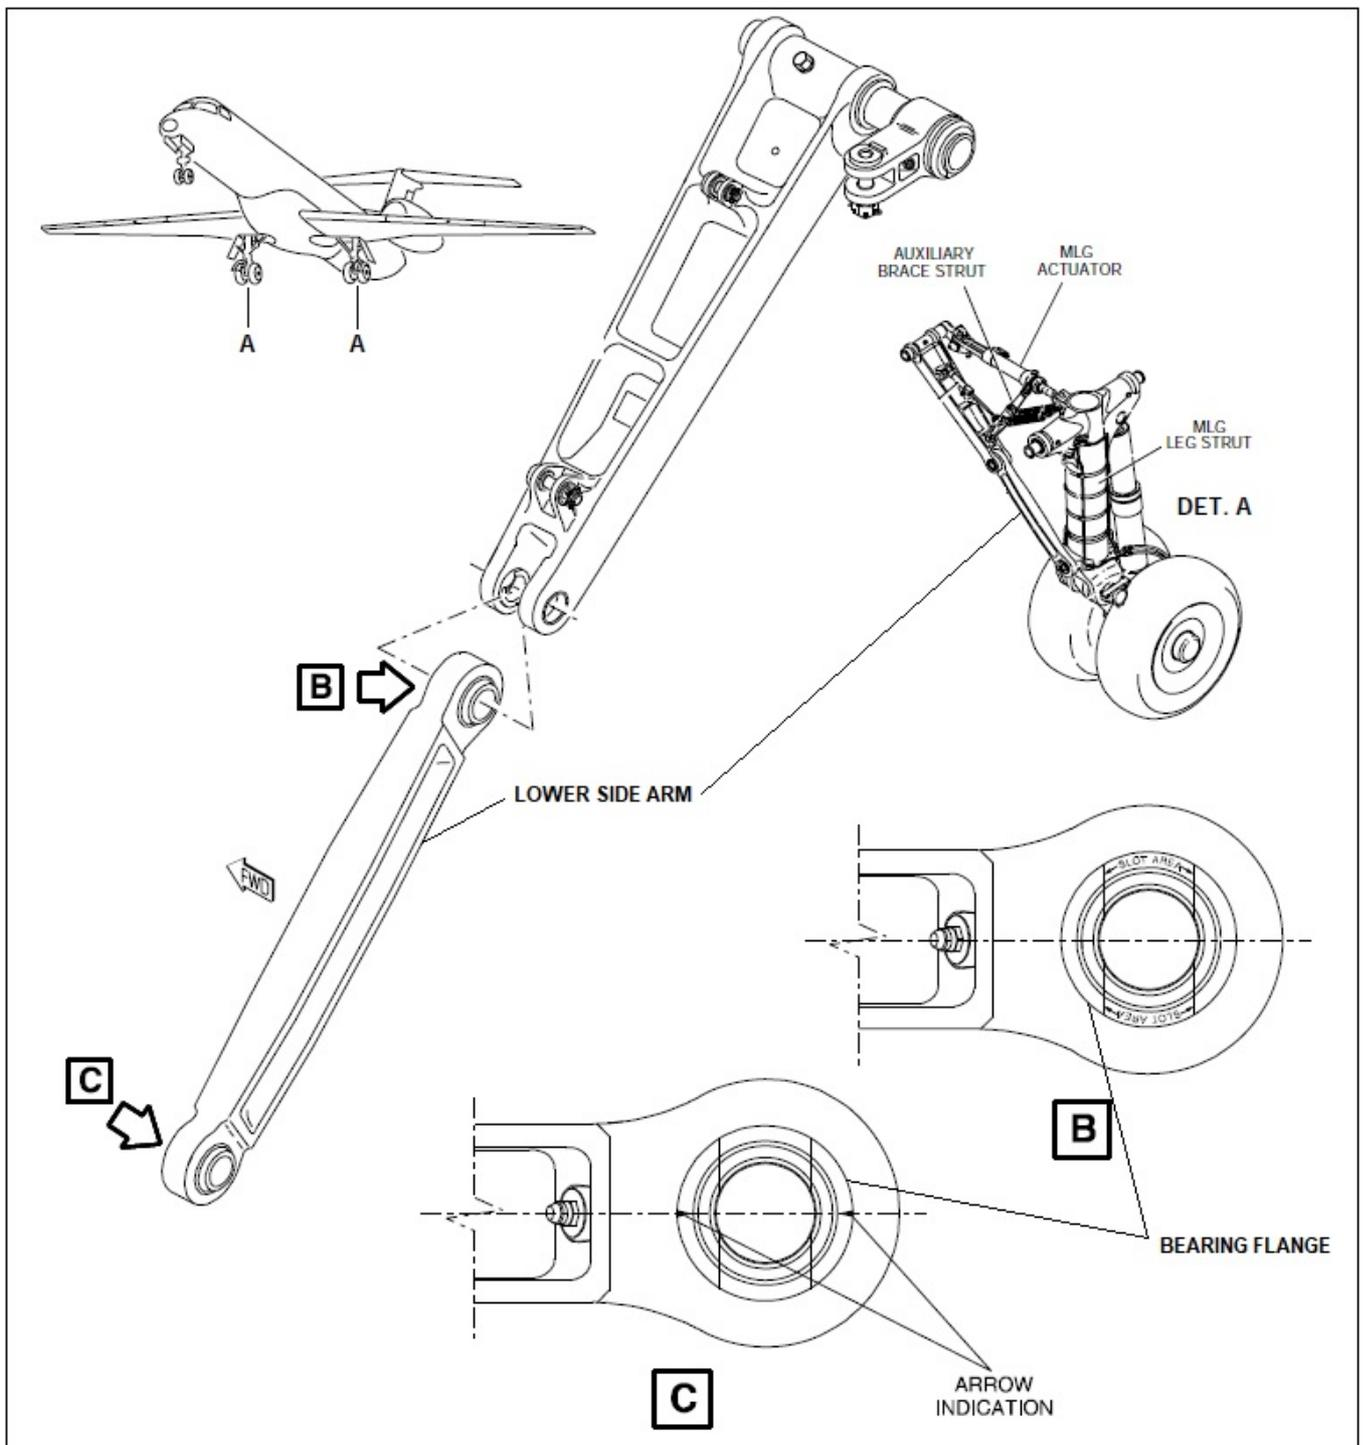

Figure 2: Correct installation of the Lower Side Arm Bearings
A one-time inspection, and reinstallation of the MLG Side Arm Strut, if necessary, as to the inverted installation of the Bearings (see Figure 2).
2. Verify that the flanges of the 2 MLG Side Arm Bearings are both facing the flight direction (see Details B and C in Figure 2 below);
- i. If, during the inspection required by item (a)(2) above, it is found that either of the Bearing's flanges is installed inverted (flange facing opposite to the flight direction), before the next flight (see NOTE 2), remove the Lower side Arm and re-install the affected Bearing in the correct position (flange facing the flight direction). To comply with this paragraph, refer to procedure 32-10-03/400 (MAIN-LANDING-GEAR MAIN BRACE STRUT - REMOVAL/INSTALLATION) of the AMM applicable to the aircraft, and to the CMM (Component Maintenance Manual), procedure T.P. 145/1190\_32-10-03, as necessary.
3. Verify that there is no migration of both Bearings of the MLG Side Arm (see Details B and C in Figure 2) (both Flanges shall be flushed with the MLG Lower Side Arm face);
- i. If, during the inspection required by item (a)(3) above, it is found that has been migration of either of the Bearings, before the next flight (see NOTE 2), remove the Lower Side Arm and re-install or replace, as applicable, the affected Bearing. To comply with this paragraph, refer to procedure 32-10-03/400 (MAIN-LANDING-GEAR MAIN BRACE STRUT - REMOVAL/INSTALLATION) of the AMM applicable to the aircraft, and to the CMM (Component Maintenance Manual), procedure T.P. 145/1190\_32-10-03, as necessary.